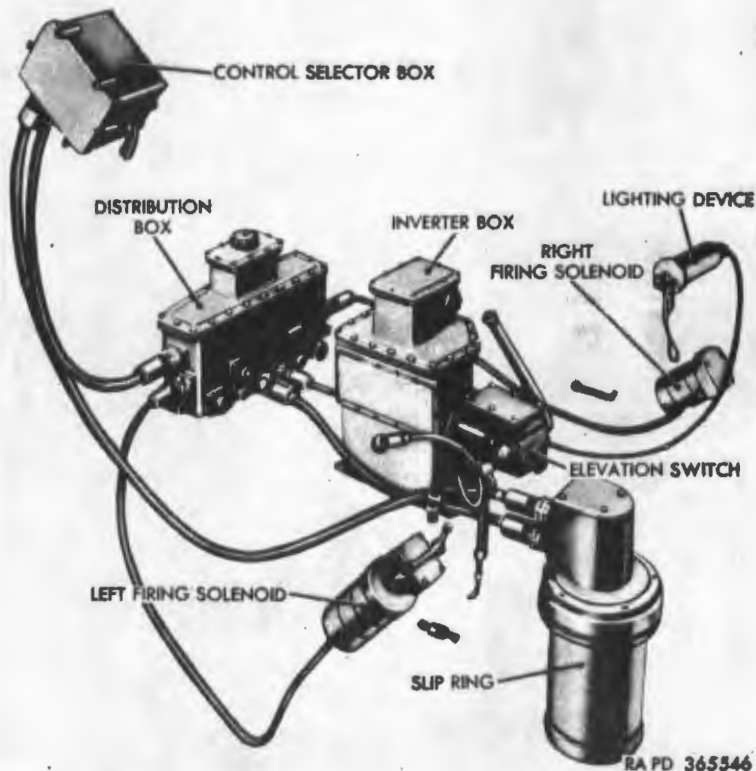

Figure 262. Parts of wiring set M10A1E1.
- (1) *General.* Inspection of the wiring set components (fig. 262), slipring, inverter box, distribution box, firing solenoids, control selector box, elevation switch, and lighting device or reflex sight light will be limited primarily to a visual inspection (a above).